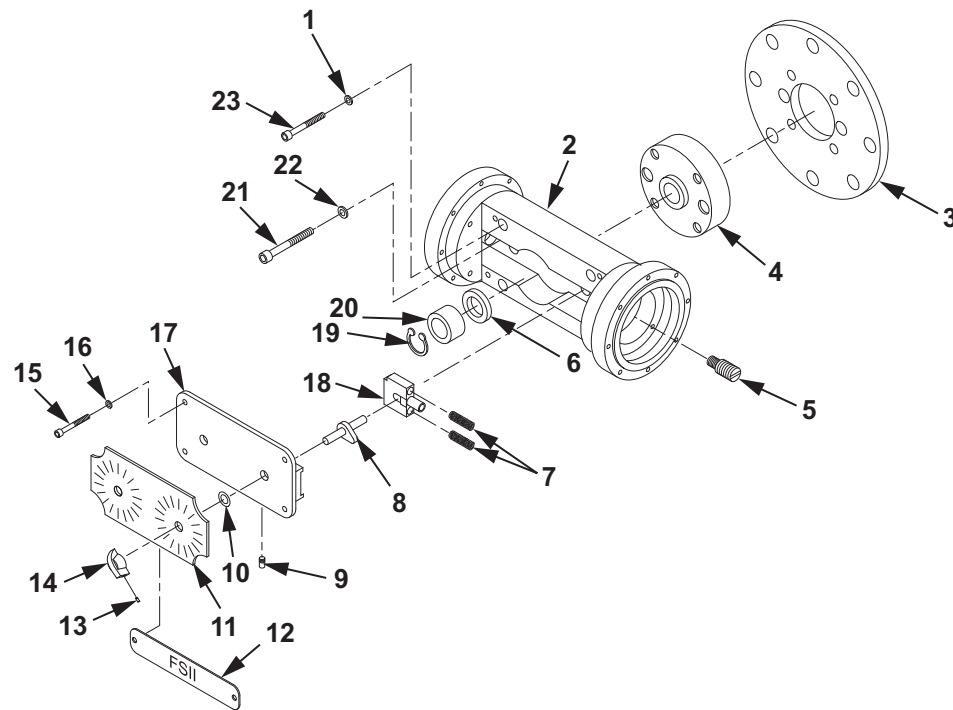

Figure 1. FSII Injection Pump Removal.
1. Position drain pans below FSII injection pump assembly (Figure 1, Item 2).
2. Loosen stroke adjustment setscrews (Figure 1, Item 9) on bottom of FSII injection pump assembly (Figure 1, Item 2).
3. Loosen two setscrews (Figure 1, Item 13) from stroke adjustment knobs (Figure 1, Item 14).
4. Remove stroke adjustment knobs (Figure 1, Item 14) from the stroke adjustment cams (Figure 1, Item 8).
5. Remove stroke indicator (Figure 1, Item 11) from the stroke adjustment cams (Figure 1, Item 8).
6. Remove four screws (Figure 1, Item 15) and lockwashers (Figure 1, Item 16) securing cam guide cover (Figure 1, Item 17) and FSII indicator tag (Figure 1, Item 12) to stroke adjustment cams (Figure 1, Item 8). Discard four lockwashers (Figure 1, Item 16).
7. Remove FSII indicator tag (Figure 1, Item 12) from cam guide cover (Figure 1, Item 17).
8. Remove cam guide cover (Figure 1, Item 17) and stroke adjustment cams (Figure 1, Item 9) from FSII injection pump assembly (Figure 1, Item 2).
9. Remove two O-rings (Figure 1, Item 10) from cam guide cover (Figure 1, Item 17). Discard O-rings (Figure 1, Item 10).
10. Remove stroke adjustment cams (Figure 1, Item 8) from cam guide cover (Figure 1, Item 17).
11. Remove two adapter screws (Figure 1, Item 5) from FSII injection pump assembly (Figure 1, Item 2).
12. Remove two crossheads (Figure 1, Item 18) and four springs (Figure 1, Item 7) from FSII injection pump assembly (Figure 1, Item 2).
13. Remove four screws (Figure 1, Item 23) and four lockwashers (Figure 1, Item 1) securing FSII injection pump assembly (Figure 1, Item 2) to bearing cap (Figure 1, Item 4). Discard lockwashers (Figure 1, Item 1).
14. Using retaining ring pliers, remove retaining ring (Figure 1, Item 19) from eccentric drive bearing (Figure 1, item 20).
15. Remove eccentric drive bearing (Figure 1, Item 20) and spacer (Figure 1, Item 6) from FSII injection pump assembly (Figure 1, Item 2).
16. Remove two screws (Figure 1, Item 21) and two lockwashers (Figure 1, Item 22) securing FSII injection pump assembly (Figure 1, Item 2) to bearing cap (Figure 1, Item 4). Discard lockwashers (Figure 1, Item 22).
17. Remove FSII injection pump assembly (Figure 1, Item 2) and bearing cap (Figure 1, Item 4) from end plate (Figure 1, Item 3).